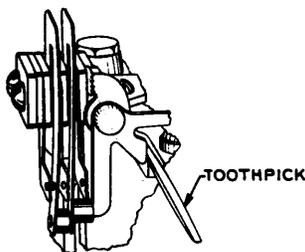

Fig. 3 – Method of Blocking Vertical Off-Normal Springs in Their Unoperated Position
3.02 When it is necessary to open the circuit to the release magnet, block the vertical off-normal springs in their unoperated position by means of a toothpick or KS-6320 orange stick as shown in Fig. 3. On 198-type switches, and when necessary on 197-type switches, insulate the contacts of the rotary off-normal springs that close the circuit to the release magnet. Where the adjustments require that the switch cut in on any level, exercise care not to interfere with the normal operation of circuits associated with the bank contacts.